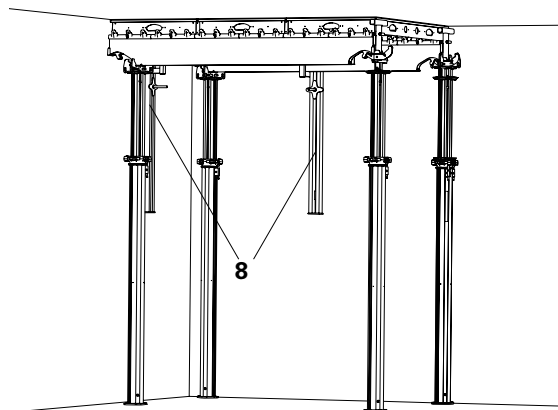

Fig. A4.08
→ The starting bay is complete. (Fig. A4.08)
4. Remove tripods. (Fig. A4.08)